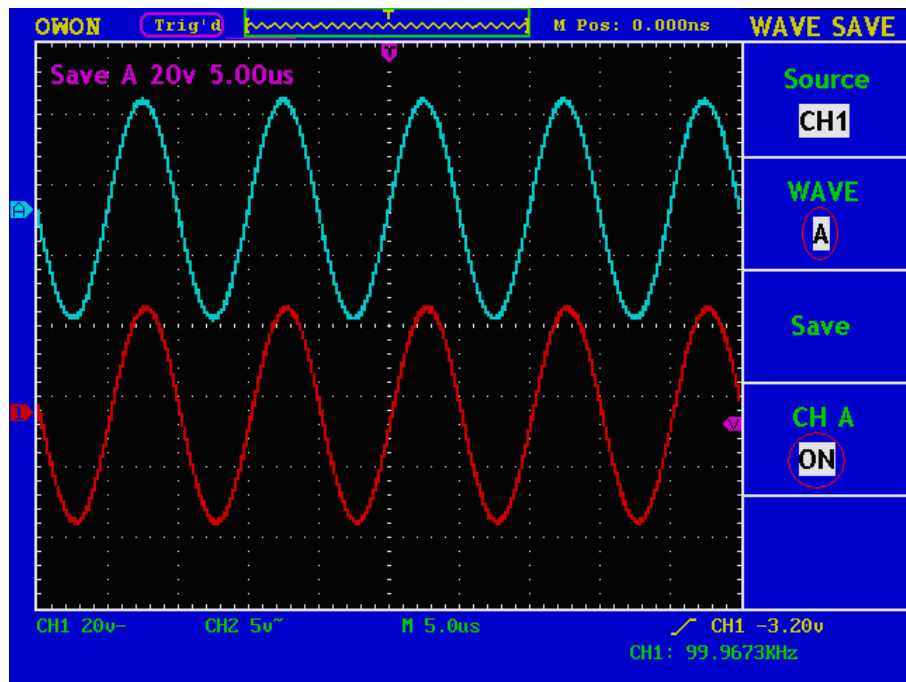

Fig.5-38 Wave Saving
- Press the **F4** menu selection button and choose **ON** for CH A. The stored wave form A will be displayed in the screen. The voltage level and time base level will also be shown at the upper left corner of the display area at the same time (see Fig.5-38).